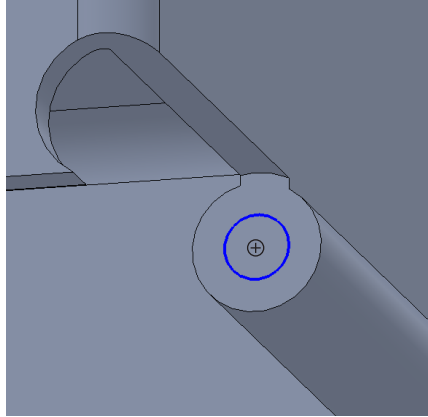
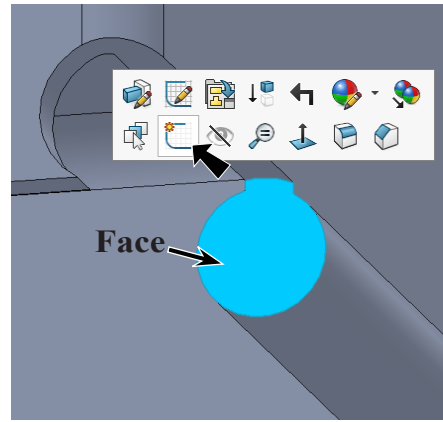

Fig. 21
Fig. 20
Step 1. Click the **side face of hinge** and click **Sketch**  on the context toolbar, **Fig. 20**.
Step 2. Click **Circle**  (S) on the Sketch toolbar.
Step 3. **Sketch circle at centerpoint of cut, Fig. 21.** To wake up centerpoint, hover cursor over circular edge of cut.